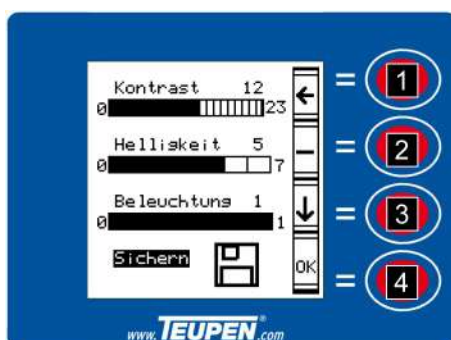

Fig. 68: Saving the display set-up
3. ➔ Using the [function key] (Fig. 68/3) set the cursor to "save".
⇒ The setting of the [function key] (Fig. 68/4) moves to "OK".
4. ➔ Using the [function key] (Fig. 68/4) confirm the setting.
5. ➔ Using the [function key] (Fig. 68/1) return to the [setting] menu.